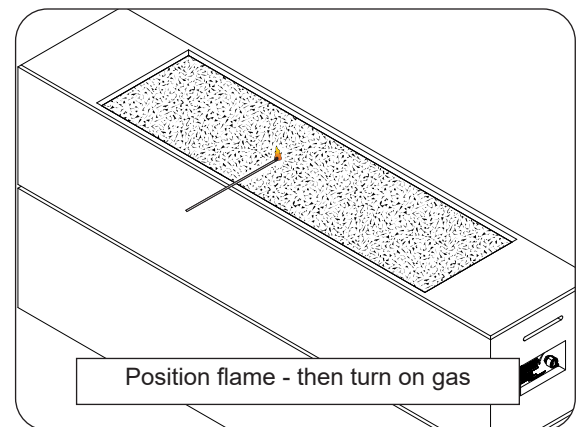

Fig. 37-1
3. Light a long-stem match or a long-necked butane lighter, and place the flame against the surface of the decorative media near the burner (Fig. 37-1).